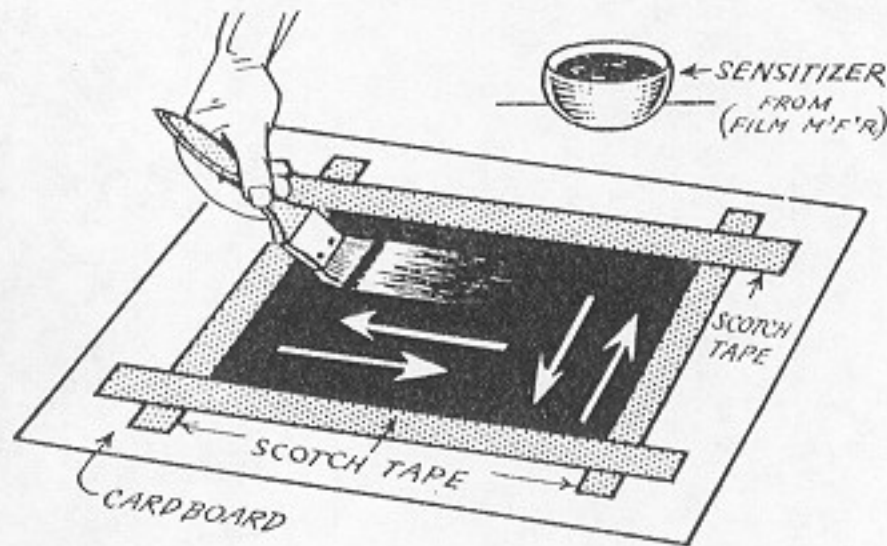

Fig. 136. Sensitize the Film
4. Lay the film on a piece of heavy cardboard, gelatin side up. Tape all four edges, Fig. 136. Brush on several coats of sensitizer, using a soft, wide camel's hair brush. Work across the width, then